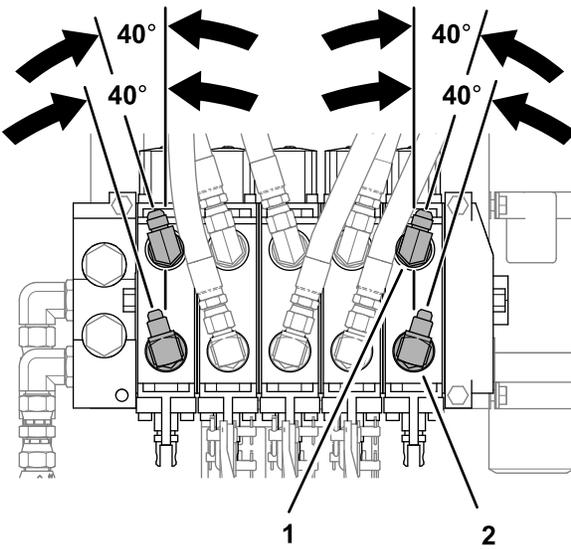

Figure 6
5. Align the 90° fittings as shown in Figure 6, and tighten the jam nuts.